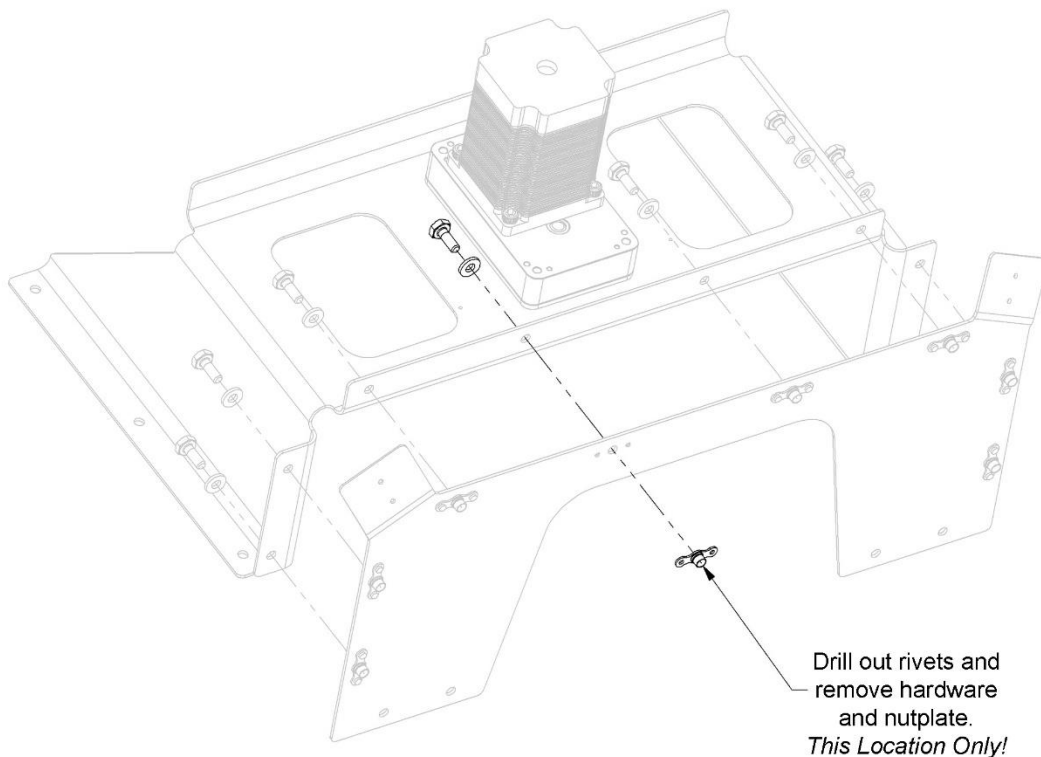

Figure 6: Removing Nutplate from Boxing Plate
9. On a workbench, separate boxing plate from bridge bracket, and then drill out rivets and remove nutplate and hardware, as shown in Figure 6.